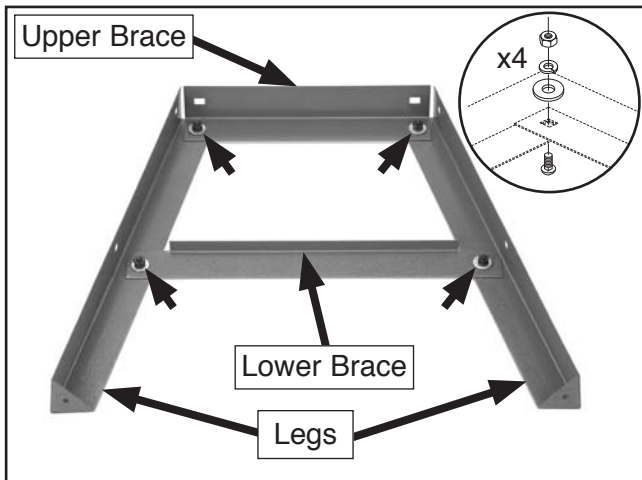

Figure 9. Leg assembly.
1. Lay out two legs, one upper brace and one lower brace, then connect them using four M8-1.25 x 16 carriage bolts, four 10mm flat washers, four 8mm lock washers, and four M8-1.25 hex nuts, as shown in **Figure 9**. Do not yet fully tighten the nuts.